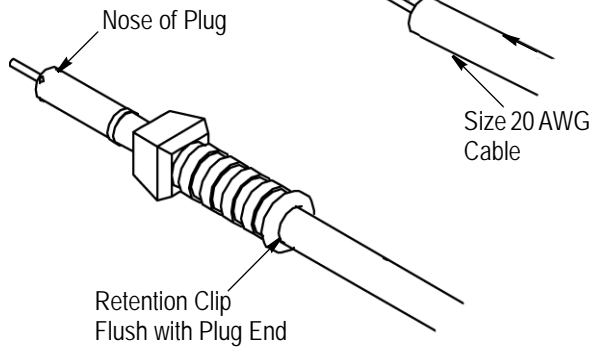

Figure 2
1. Using the insulation stripping tool, strip the jacket from the fiber to the dimension given in Figure 2, Detail A. Make sure the tool is set for cable size 20 AWG or 1000- μ m fiber.
2. Using the insertion tool, push the stripped cable into the plug until the cable bottoms and excess fiber extends out the nose of the plug. See Figure 2, Detail B.